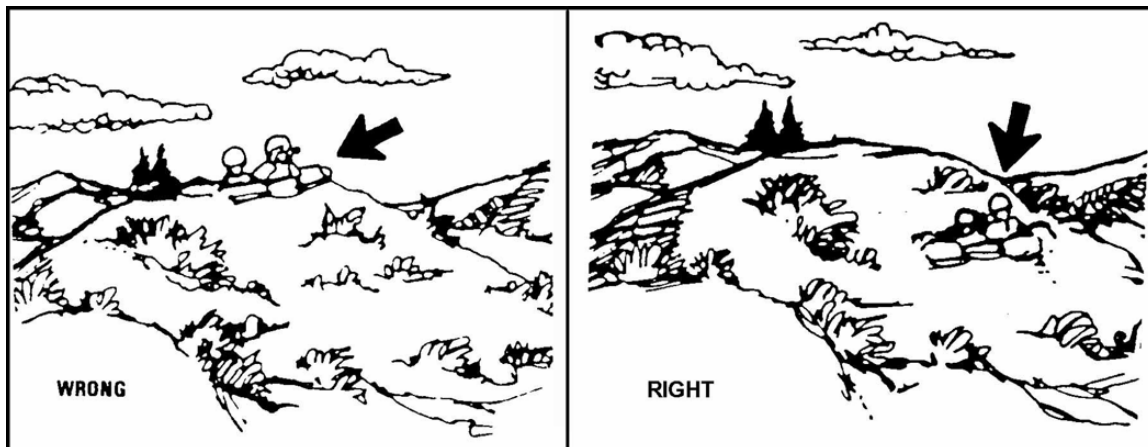

Figure 071-326-5705-1
- (1) Maximum observation of the desired area (specified by the platoon leader).
- (2) Cover and concealment for the occupants of the OP.
- (3) Concealed routes to and from the OP.
- c. Usually, the best location for an OP is on or near the military crest of a hill. Topographical crests should be avoided because of the possibility of being skylined. It may be appropriate to establish the OP well down the forward slope when observation is restricted by the terrain (Figure 071-326-5705-1).